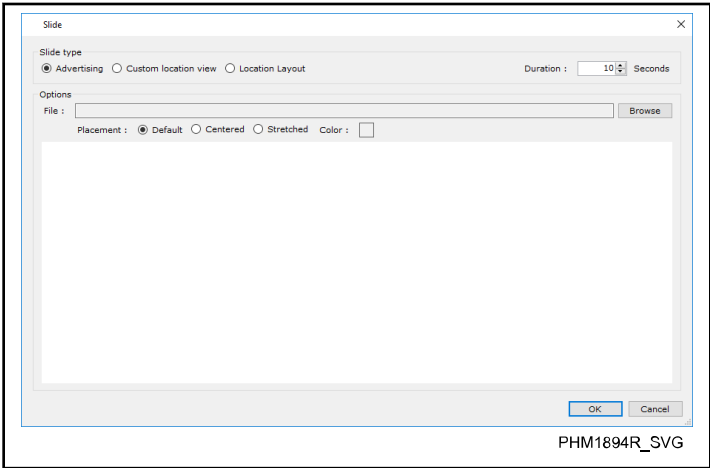

Figure 63
4. To start adding content, click **New**. The "Slide" screen appears. Refer to *Figure 63*.